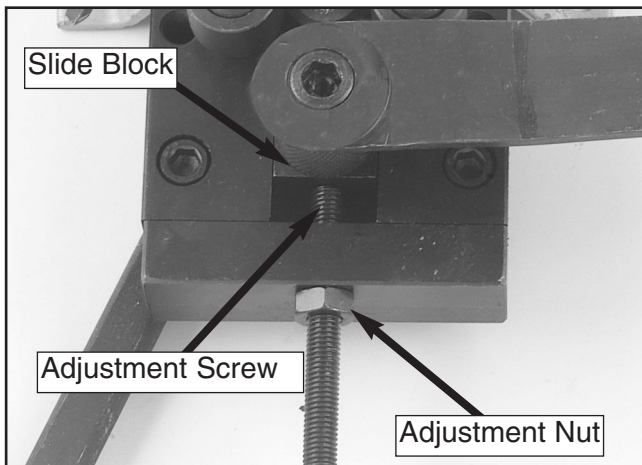

Figure 15. Adjustment screw against the slide block.
1. After bending the workpiece to the desired angle, run the adjusting screw until it is tight against the slide block (**Figure 15**).
1. When the workpiece is at the desired shape, do not release pressure on the square handle until the adjustment screw is snug against the slide block (**Figure 15**).